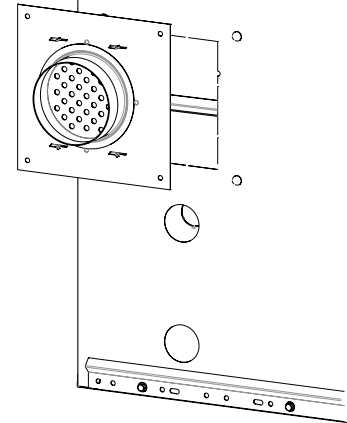
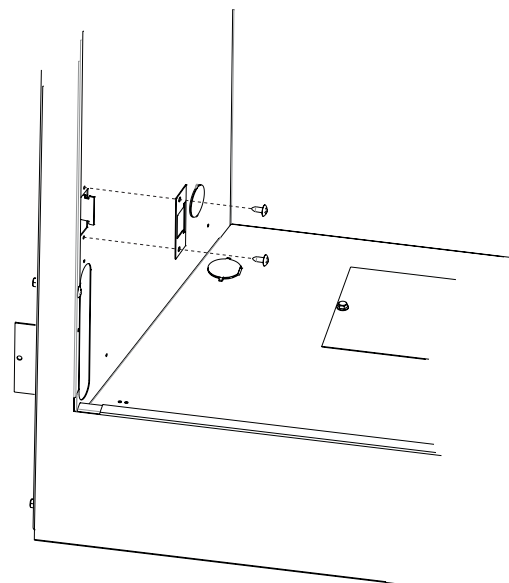

Figure 15
Figure 16
3. Insert Slide Assembly through the cut-out as shown in **Figure 15**. Before you fasten ensure that the handle penetrates the inner firebox wall. See **Figure 16**. Fasten the Slide Assembly with the four 10 x 1/2 Hex Head Screws provided.
4. Fasten the Handle Retainer to the firebox side with two 10 x 1/2 Phillips Truss Head Screws as shown in **Figure 16**.